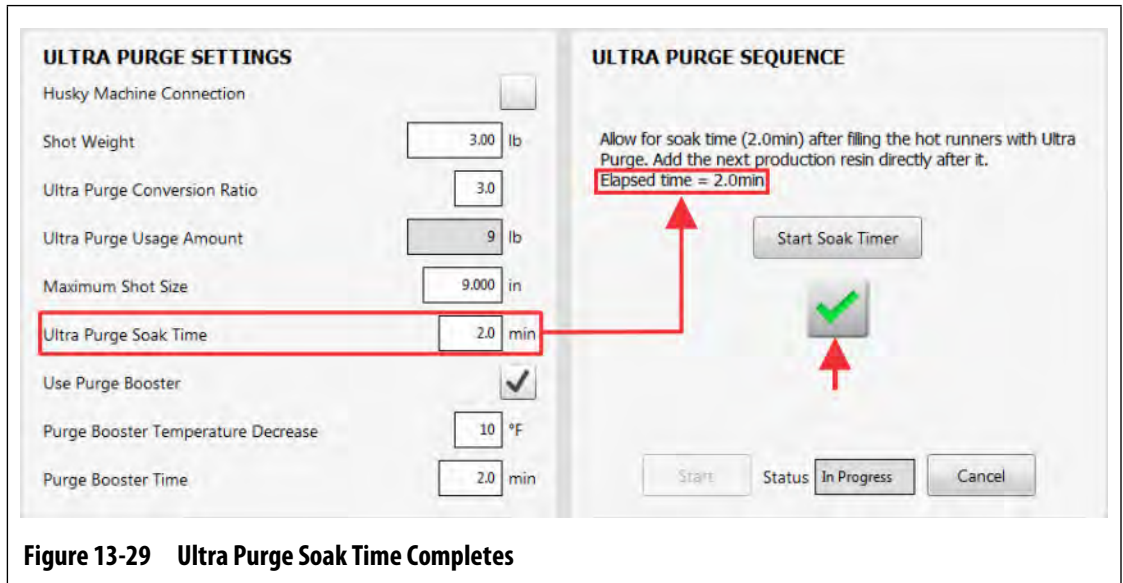

Figure 13-29 Ultra Purge Soak Time Completes
- When the soak time has completed, touch the check mark button to continue (Figure 13-29).